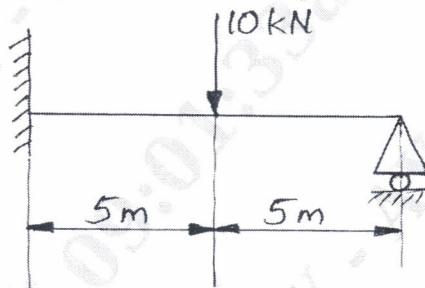

Fig.Q.5(b)
- b. For the beam element shown in Fig.Q.5(b) determine deflection under the given load. Take $E = 2 \times 10^5 \text{ N/mm}^2$ and $I = 4 \times 10^{-6} \text{ m}^4$. (10 Marks)